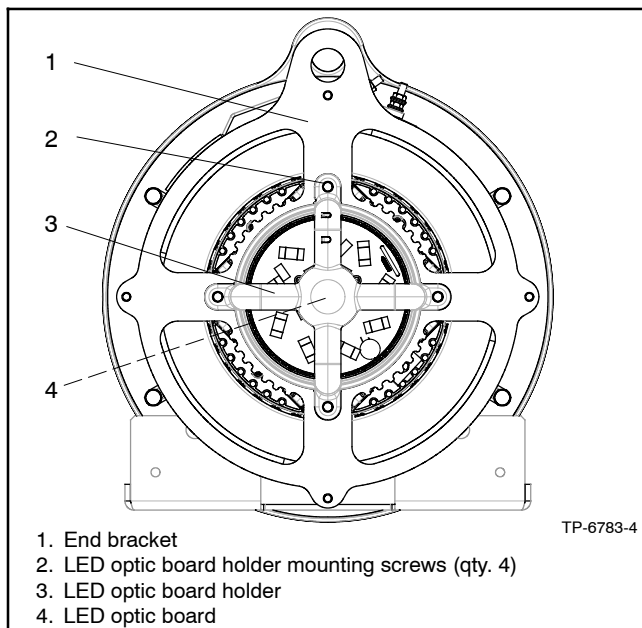

Figure 11-2 Removing LED Optic Board Holder
4. Remove the LED optic board holder from the end bracket (four screws). See Figure 11-2.